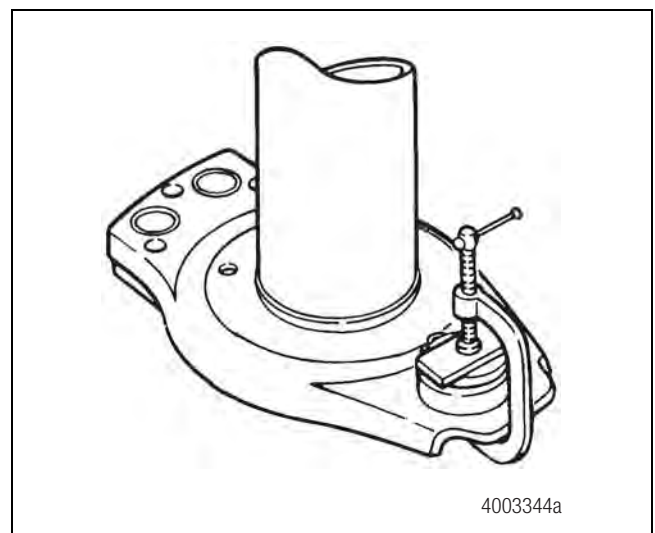
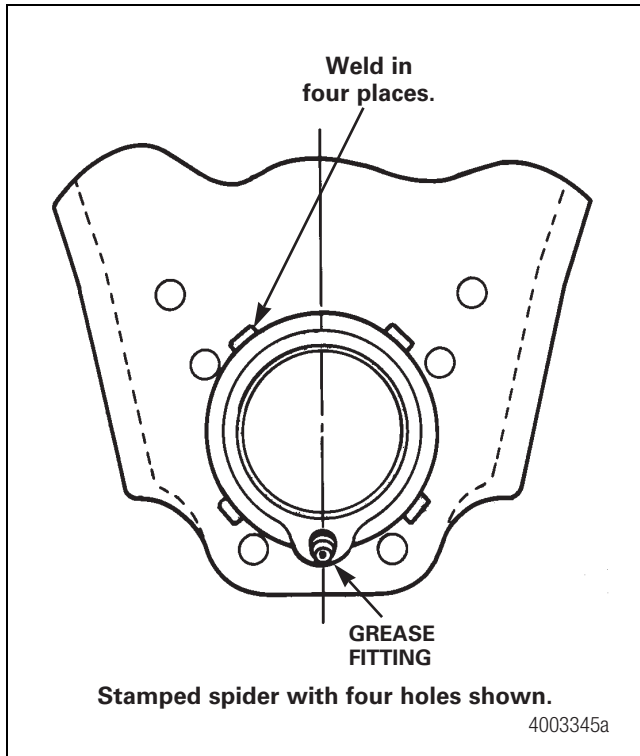

Figure 11.63
Figure 11.64
4. Press a new retainer into the spider with a C-clamp. Figure 11.63. Verify that the grease fitting is positioned correctly. Figure 11.64.
5. Weld the retainer in four places using AWS E70S3 or E70S6 electrodes. Each weld should have a 0.1875-inch (4.76 mm) fillet and be 0.375-inch (9.52 mm) long. Figure 11.64.